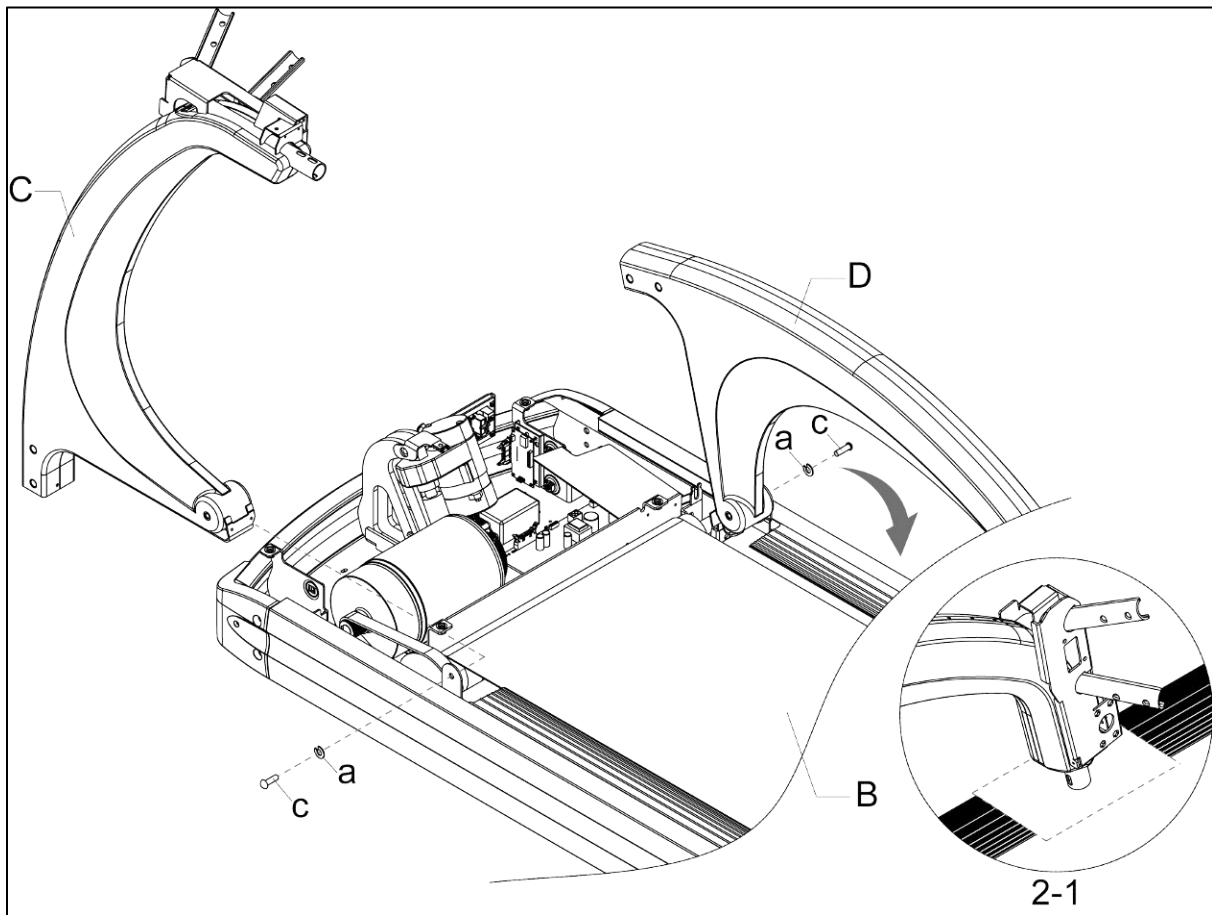

Fig. 2
- b) Install Pedestal – R (D) into Frame (B) rotated down as shown in Fig. 2. This position will help prevent cable damage.
- d) Insert Pedestal – L (C) into Frame as shown in Fig. 2 with bolt (c) and washer (a) but do not tighten yet.